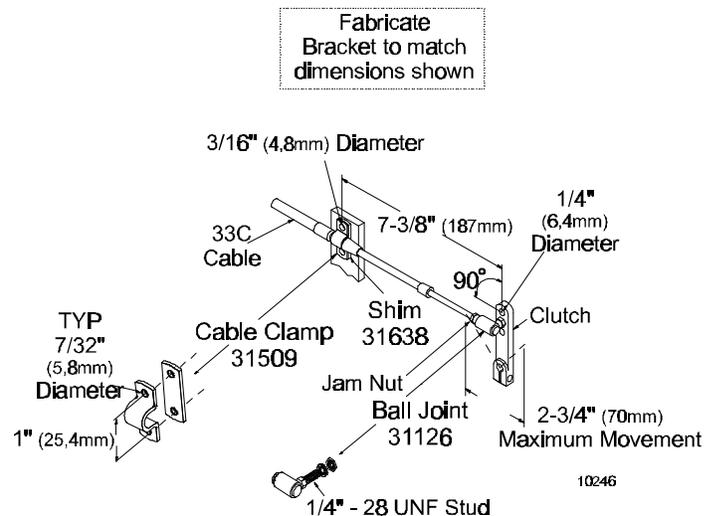

Fig. 4
Many engines are delivered with factory push-pull cable mounting kits. If factory mounting kit is not included, contact the engine dealer for a Factory Cable Connection Kit or refer to Fig. 4 for Universal Mounting.
- A) Verify installation of push-pull cable brackets on the transmission and engine governor. If the brackets are not on the transmission or governor, fabricate brackets as shown in Fig. 4